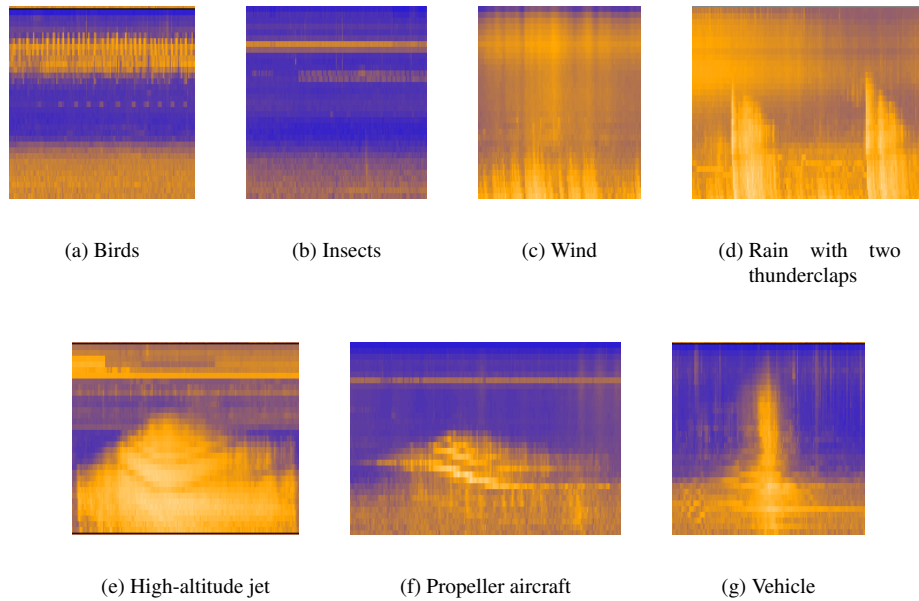

Figure 5.1: Examples of various sound sources as they would appear in spectrograms
5. Scan the spectrogram for instances of anthropogenic sound. Examples are given in figure 5.1.